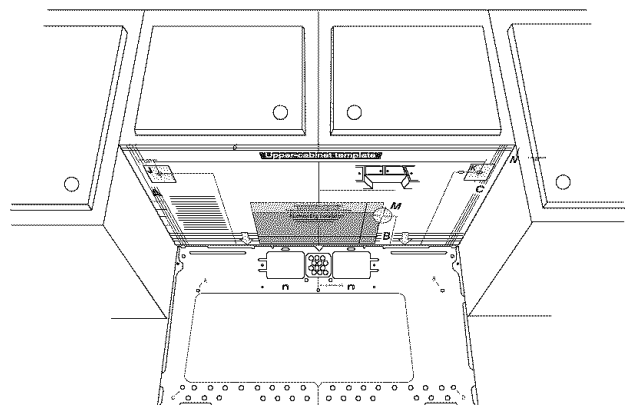

Figure 23
See Figure 23.
5. Measure the bottom of the upper cabinet frame. Trim the edges "A" "B" and "C" on the upper cabinet template so that the template will fit on the bottom of the upper cabinet. If upper cabinet has a recessed frame, trim template so that it fits inside the recessed area. Align the centerline of the upper cabinet template with the centerline of the mounting plate; then securely tape or tack the upper cabinet template in place. See Figure 23